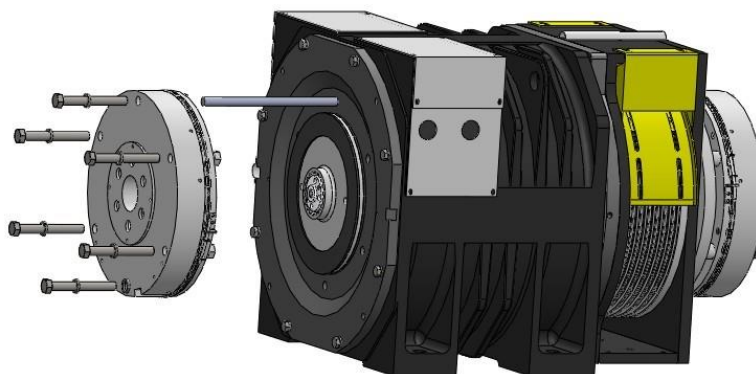

Figure 46: Normal Brake Reinstallation
4. Install the threaded rod M16x320 into the top-hole of the end-cover. Figure 46.